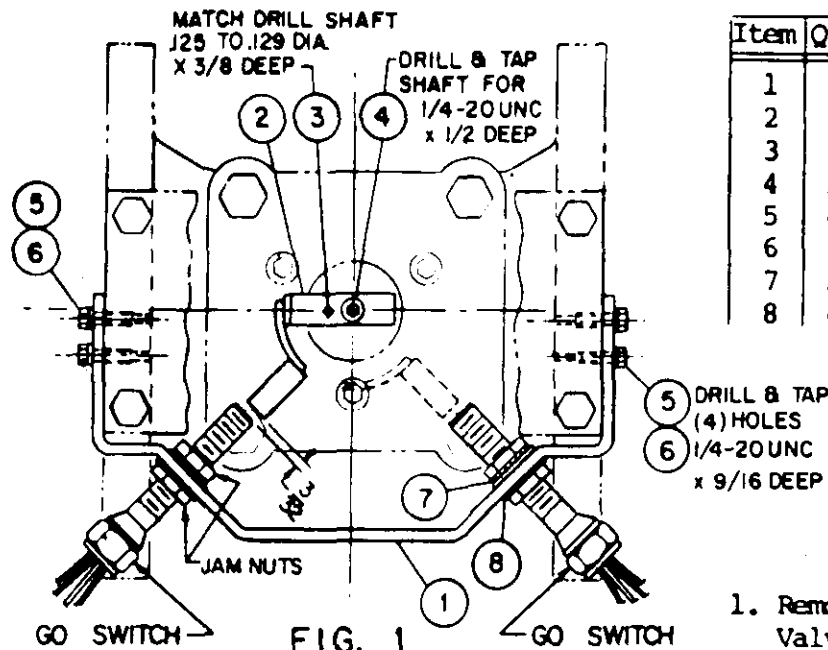

FIG. 1
4. Place Switch Activator (item 2) on shaft and secure with flat head screw (item 4). Then orient Switch Activator as shown in figure 1. Match drill shaft with hole in Switch Activator and drive rollpin (item 3) into hole to prevent rotation.
5. Fit Mounting Bracket (item 1) to sides of Actuator mounting plate support and mark location of four mounting holes, drill, and tap four 1/4-20UNC x 9/16 dp. Then secure Mounting bracket (item 1) with items 5 & 6.
6. Insert GO® Switches into slots on Mtg. Bracket (item 1) and secure with two jam nuts that come with switches and washers items 7 & 8.
7. Adjust Switches to sense Activator (item 2) in full open and full closed positions.